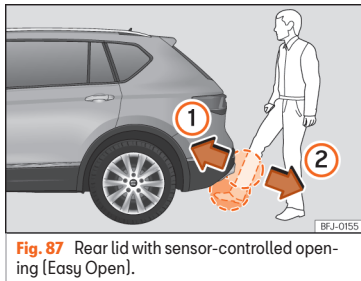

Fig. 87 Rear lid with sensor-controlled opening [Easy Open].
- With a brisk movement, bring your foot and lower leg as close as you can to the bumper. The lower part of the leg needs to be close to the upper sensor area and your foot must be close to the lower sensor area »» Fig. 87 ①.
- Quickly remove your foot and lower leg from the sensor areas »» Fig. 87 ②. The rear lid will be automatically opened.